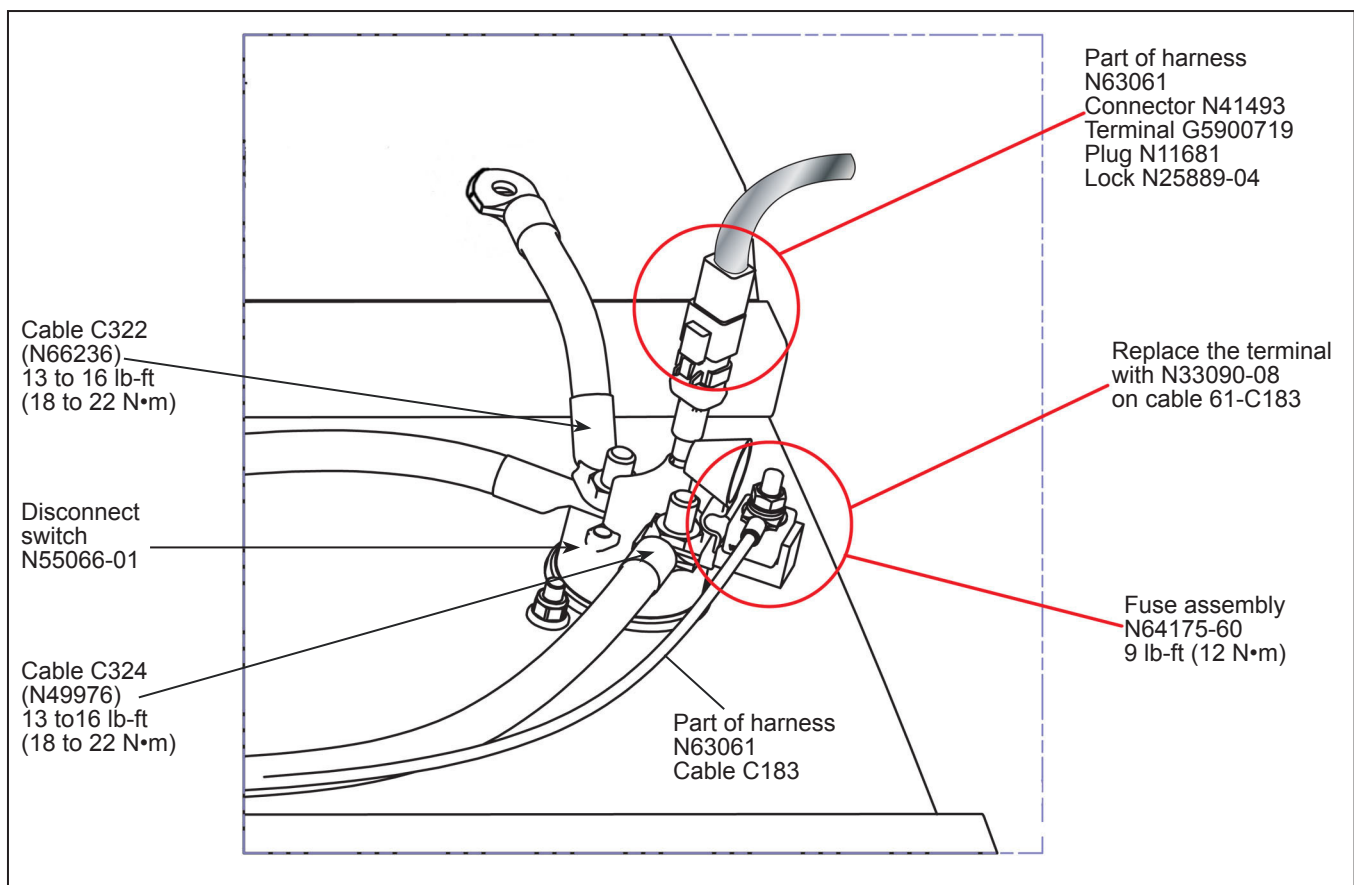

Figure 5 - Modified Installation
- 1.10. Place the new battery cut-off switch N55066-01 in the enlarged hole. Attach using screws N44885-03 and bolts N43233. See Figure 5.
- 1.11. Install a terminal G5900719 on wire 61-871, and another terminal G5900719 on wire 61-872. See Figures 5 and 6.
- 1.12. On connector N41493 (see Figure 5):
- 1.14. Install the fuse assembly N64175-60 at position A1 of the battery disconnect switch. See Figure 5.
- 1.16. Connect cable 61-C183 to the fuse assembly N64175-60. See Figure 5.